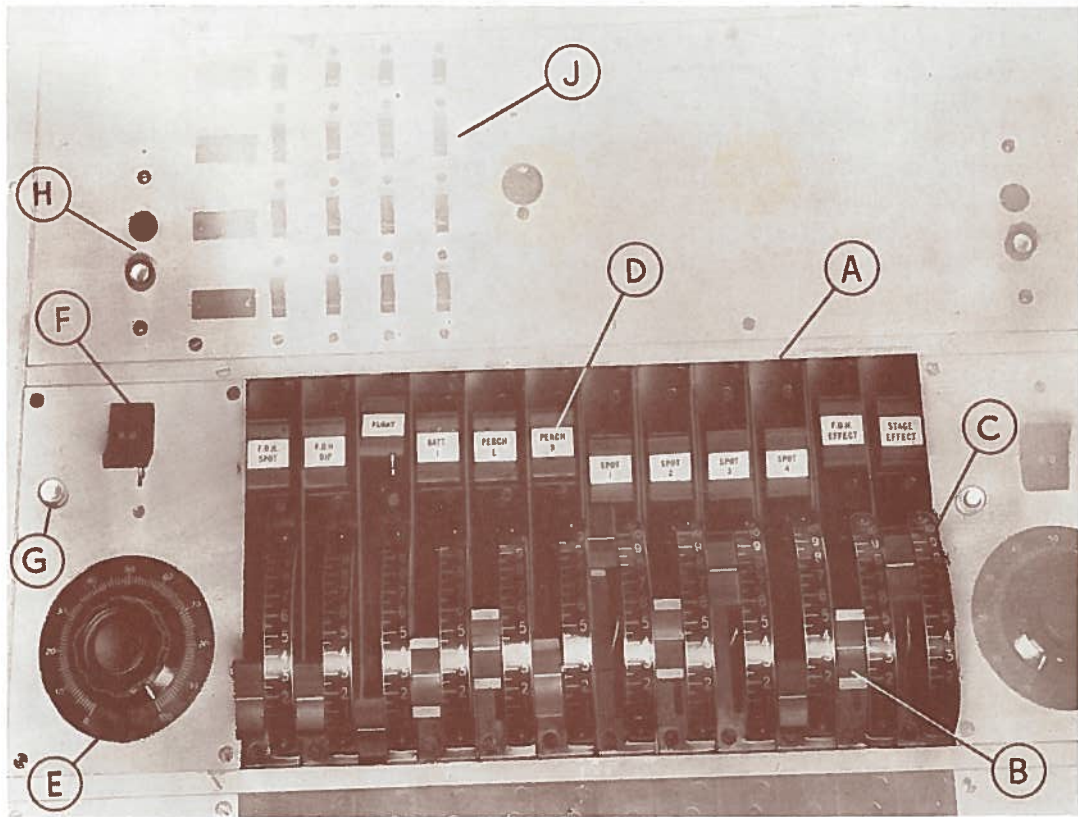

Fig. 3 Close up view of part of control panel.
**Layout.**—As on a hand operated board each circuit on the control panel has a two-way-and-off switch and a “dimmer” handle. These circuit control units are grouped in horizontal rows of 12, each row having a master switch and master dimmer control. Each panel or set of rows has its own panel master switch and panel master dimmer controls. Signal lights, remote colour change controls, etc., may be fitted as desired. (One arrangement is shown at J Fig. 3.)